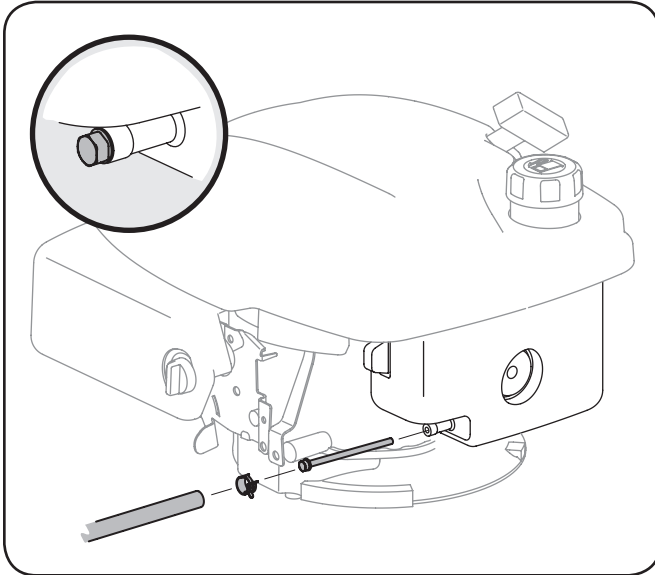

Figure 11-5
2. Remove c-clamp from fuel line and remove fuel line from tank outlet. See Fig. 11-5.